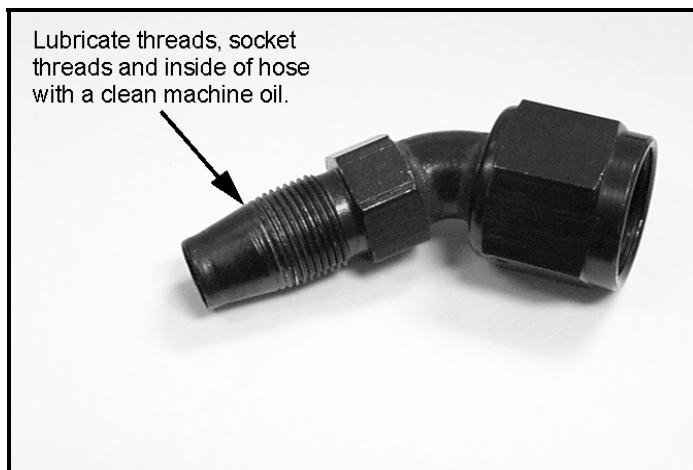

Figure 5
4. Lubricate the cutter threads, socket threads, and the inside of the hose with clean machine oil. See Figure 5. Place the socket in a vise and insert the nipple of the fitting into the socket end. Push the socket and fitting together, hand threading until snug. See Figure 6.